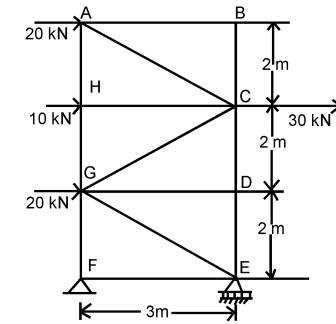

Fig. 3
2. (a) Determine the forces in all the members of the truss shown in Fig. 3. Tabulate the results and indicate the magnitude and nature of forces on the diagram of the truss. (Use Method of Joints to solve this problem)